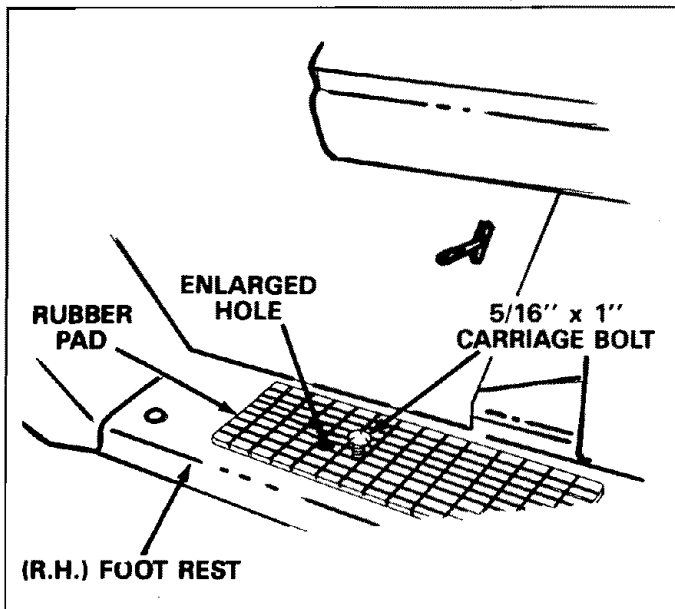
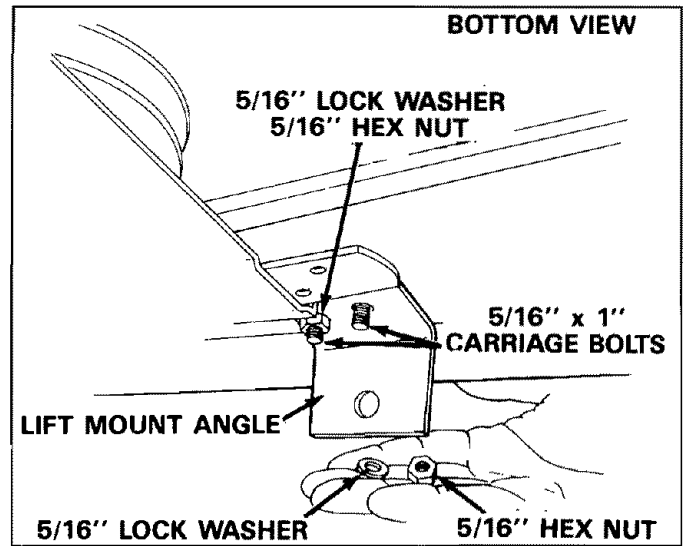

FIGURE 13
FIGURE 14
16. Enlarge holes in rubber pads to allow assembly of two 5/16" x 1" carriage bolts through each footrest, (see figures 13 and 14) and through each lift mount angle. Assemble lift mount angles, with large hole facing to outside of tractor and secure using two 5/16" lock washers and two 5/16" hex nuts under each footrest. See figure 14.